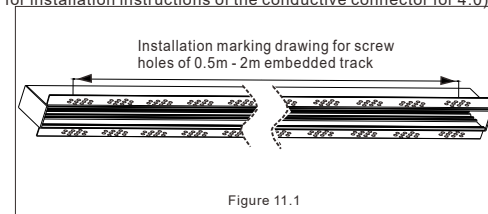
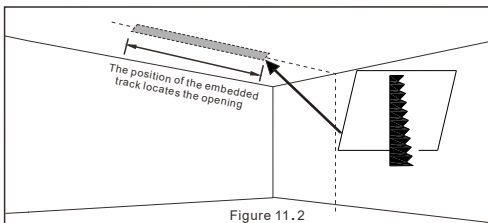

Figure 11.1
Figure 11.2
1. Before installation of the embedded magnetic suction track with edge, please refer to table 11.1/ and Figure 11.1 for the mounting position of screws, and then to the installation area to locate the opening for installation; (See FIG. 11.1/ Table 11.1) (Please refer to FIG. 1.1 for installation instructions of the conductive connector for 4.0).
2. In the track installation area, refer to the track opening size (Table 11.1), mark the installation position and position with tools, and then open the hole for installation; (See Figure 11.2)
1. Before installation of embedded high-edge magnetic absorption track, please refer to installation of embedded high-edge track (Table 11.1/ and Figure 11.1 and figure 11.2);